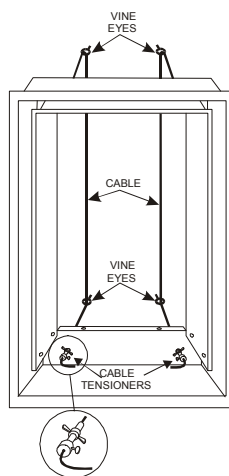

Figure 66
5. Place the Freedom Surround into the prepared opening, threading the cables through the vine eyes, and through the holes in the base of the surround, as shown in **Figure 66**.